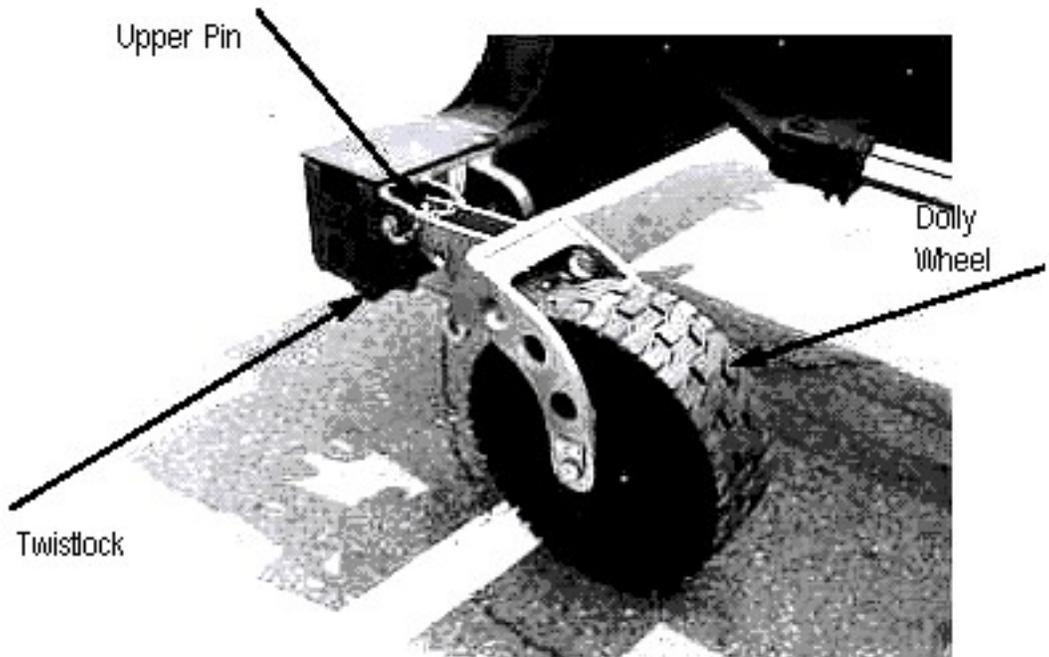

Figure 3-165
j. Install each dolly wheel to tophandler (see Figure 3-165).